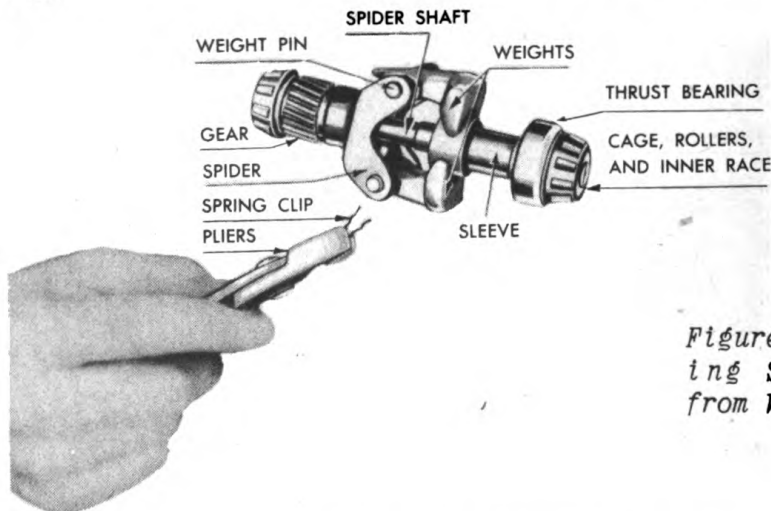

Figure 220. Removing Spring Clip from Weight Pin.
8. Remove the clip from the weight pin to remove the spider and shaft as shown in Figure 220.